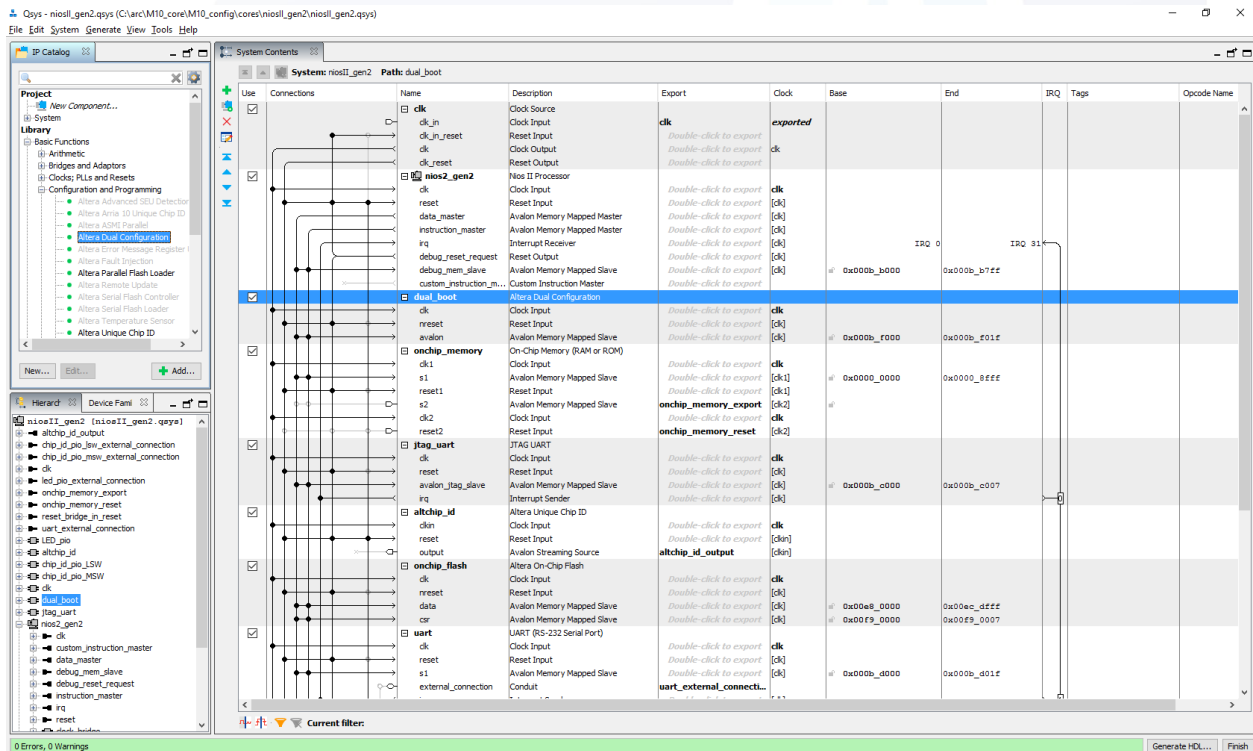

Figure 2-2 An Example Qsys that has Altera Dual Boot
4. Add the IP core called "**altera_dual_boot**" into the design. If the design is already using Nios2 or any other Qsys systems, the altera_dual_boot can be added to the existing Qsys, like the one shown in Figure 2-2. Otherwise, the "**altera_dual_boot**" can be added to the top design by creating a new Qsys that only contains "**altera_dual_boot**". In this regard, a good example can be found under the source repository https://github.com/PulseRain/Mustang/tree/master/cores/dual_config. Users can just copy this example and change its clock frequency to any intended number. And at the top level, this module can be instantiated like the following: